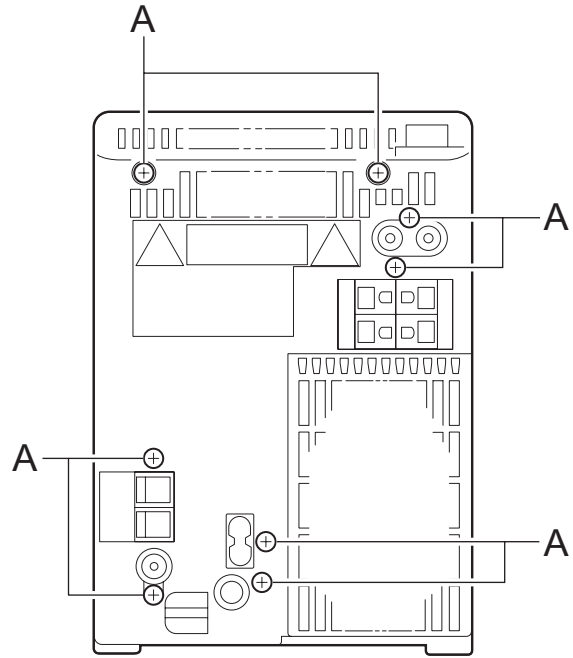

Fig.1
2.1.1 Removing the rear panel (See Fig.1,2)